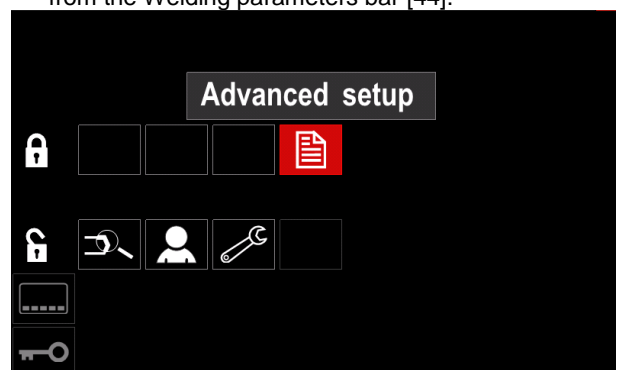

Figure 47.
- Press the Right Knob [36]. The icon of chosen parameter will disappear from the lower part of the display (Figure 47). Also this parameter disappear from the Welding parameters bar [44].